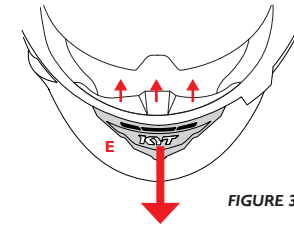

FIGURE 3
- Figure 3: air intake fully open.